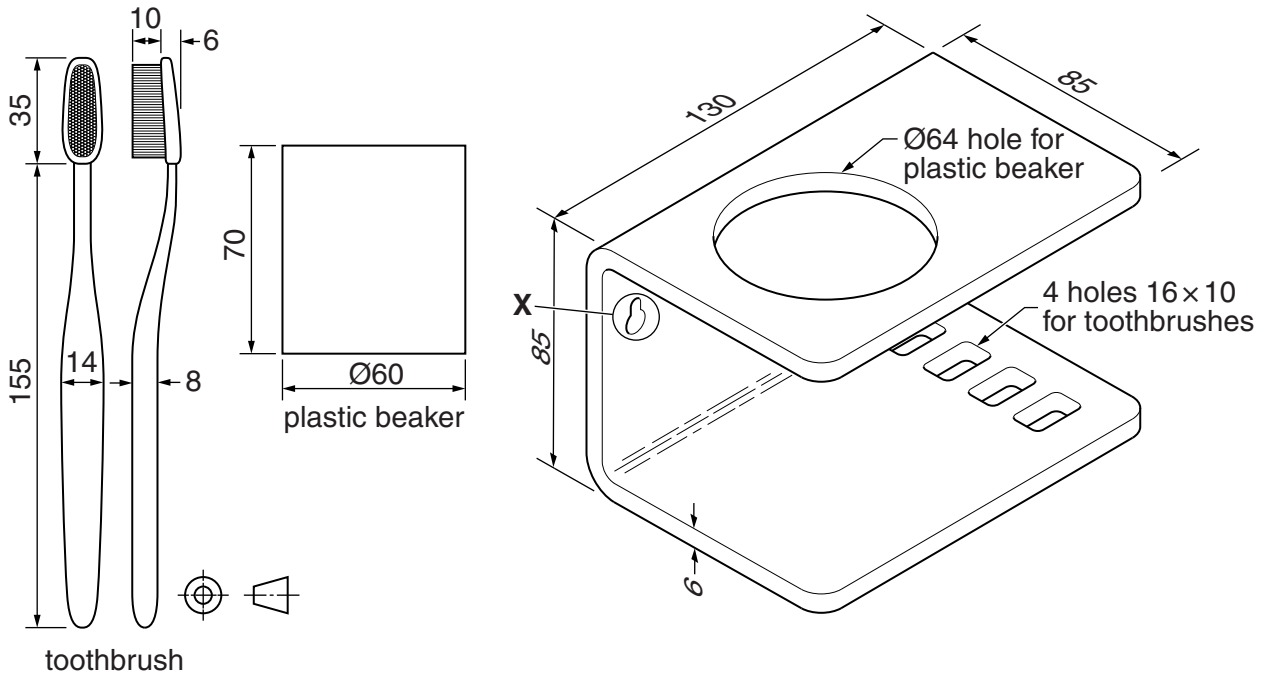

Fig. 7
- 6 Fig. 7 shows a bathroom fitment which will be attached to a wall, it will hold four toothbrushes and a plastic beaker.